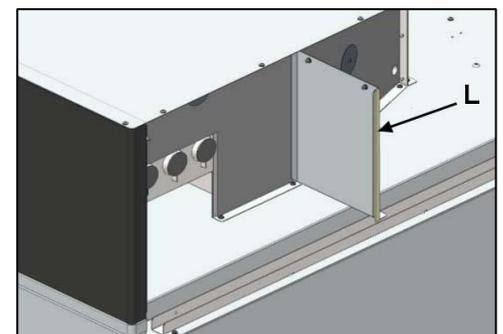
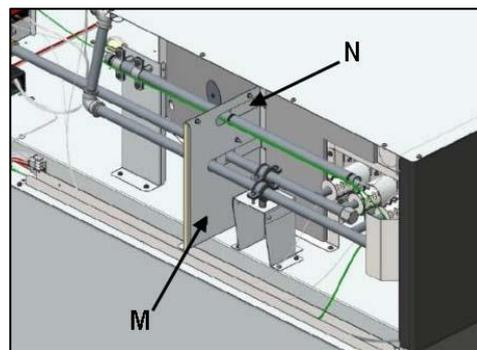

Fig. 5.11
Fig. 5.12
- To convert to propane gas, **L**, **M** and **N** will also need to be added. (Fig. 5.11 and Fig. 5.12).